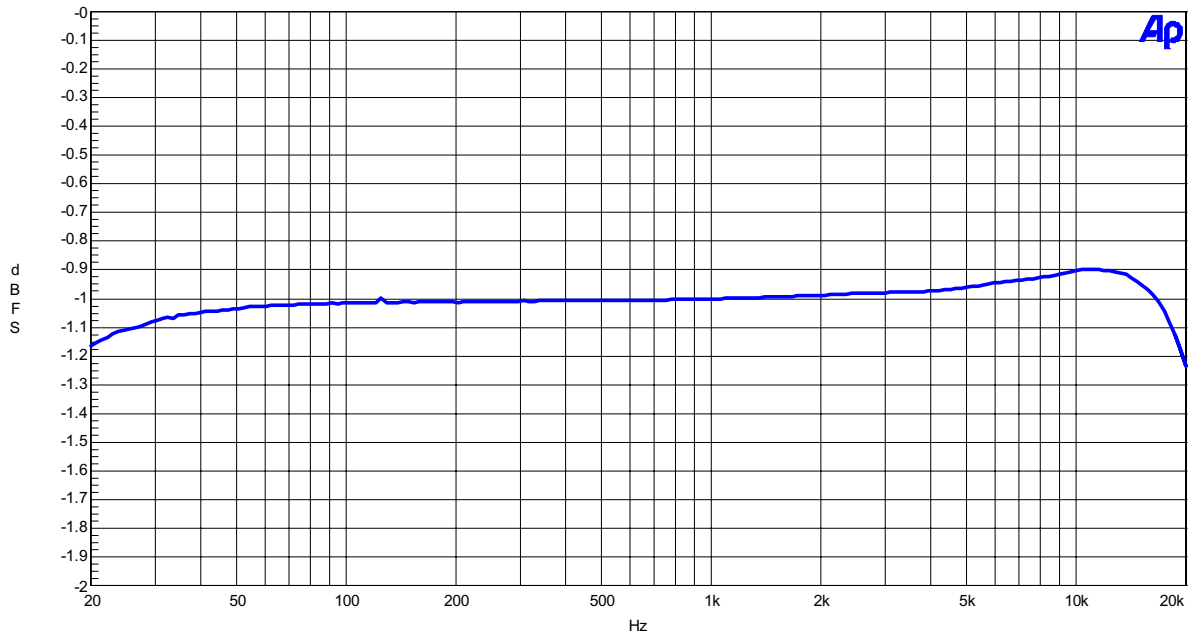

Figure 1-7. Frequency Response (Input Level=-1dBFS)
- Figure 1-7. Frequency Response (Input Level=-1dBFS)